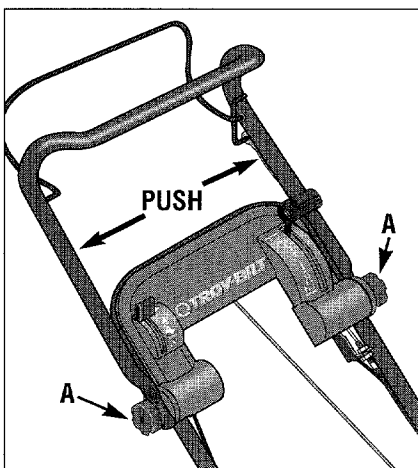

Figure 2-3: Handlebar position adjustment (Model 34022 shown).
NOTE: On some models the upper adjustment knobs (A, Figure 2-3) are located on the inside of the handlebars.
A. Loosen the upper adjustment knobs (A, Figure 2-3) until the adjustment teeth are disengaged. Push outward on the sides of the upper handlebars, and swing the handlebars upward to the desired height setting.